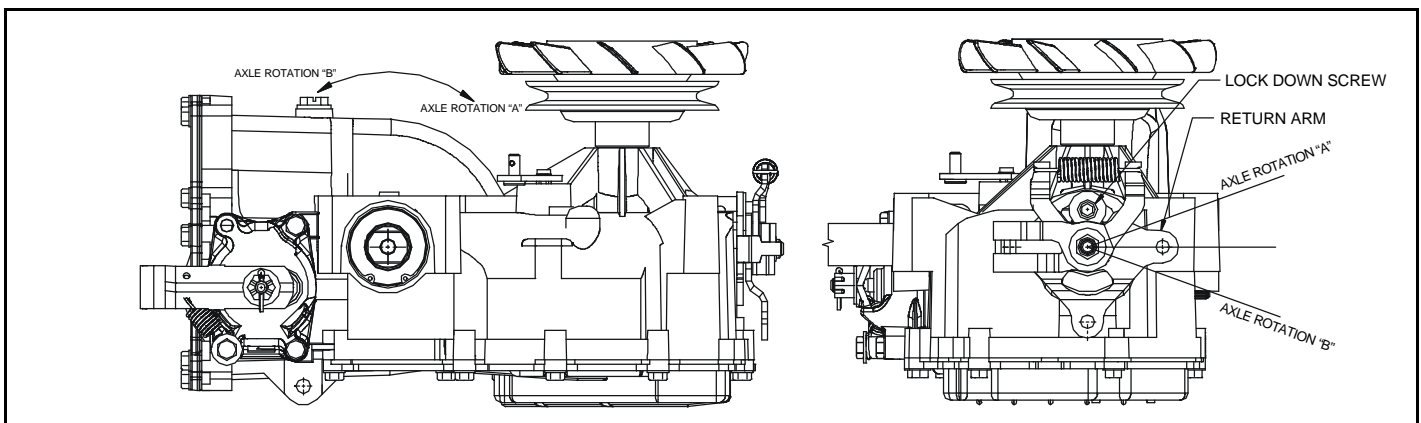

Figure 7. Return to Neutral Control
2. Remove the Original Equipment Manufacturer's (OEM's) control linkage at the return arm. Refer to Figure 7.
5. Stop the vehicle's engine. Reattach and adjust the OEM linkage to the return arm according to the OEM manual. Recheck according to Step 3 and 4. Stop the vehicle engine. Refer to Figure 7.
6. Note the axle directional movement. Stop the vehicle engine. Loosen the lock down screw until the return arm can be rotated. Refer to Figure 7 below to make adjustment. In general, rotate the return arm in the direction opposite of axle rotation. If the axle is rotating in the "B" direction, rotate the return arm in the "A" direction, and vice-versa. Continue until axle rotation stops. Tighten the lock down screw. Refer to Table 3 Required Torque Values, Page 6. Recheck according to steps 3 and 4. Stop the vehicle engine. Reattach and adjust the OEM linkage according to the OEM manual. Recheck according to steps 3 and 4. Refer to Figure 7.